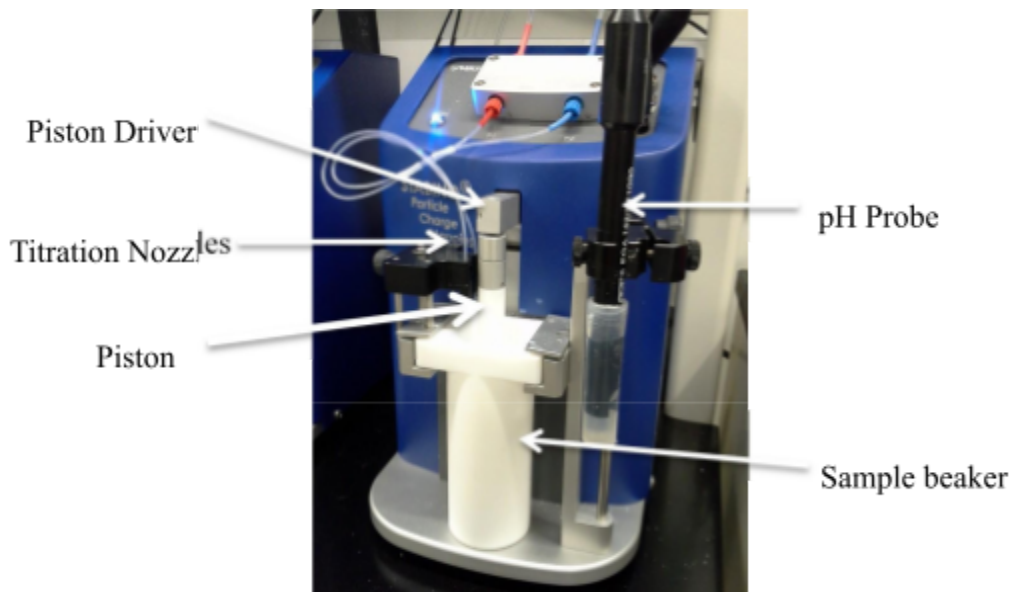

Figure 1. The Stabino zeta tool.
- 2. Tool Components.** Figure 1 shows a front view of the Stabino. Key components visible in this view are listed below.